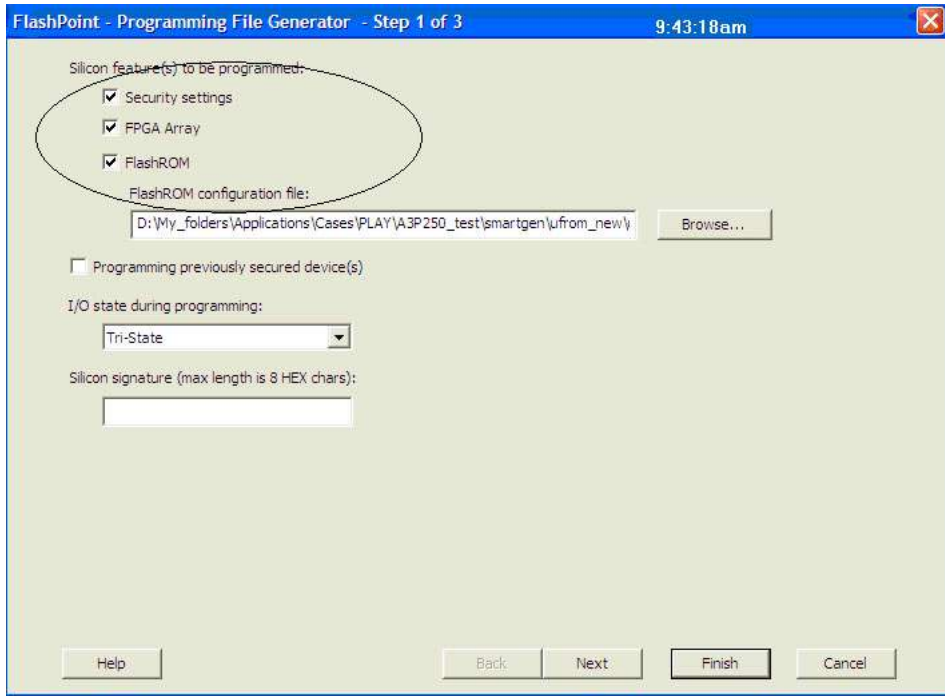
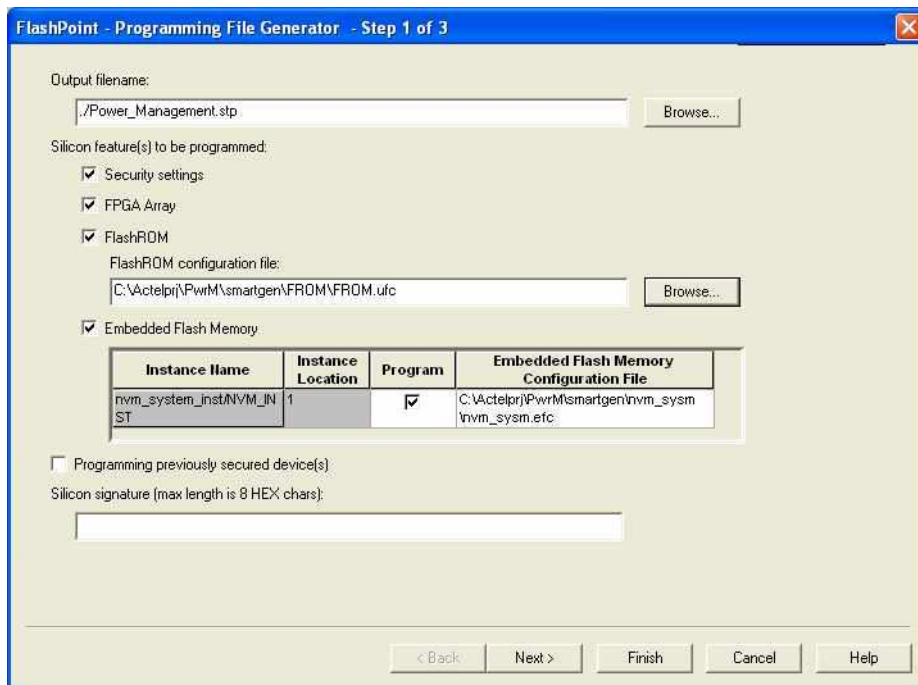
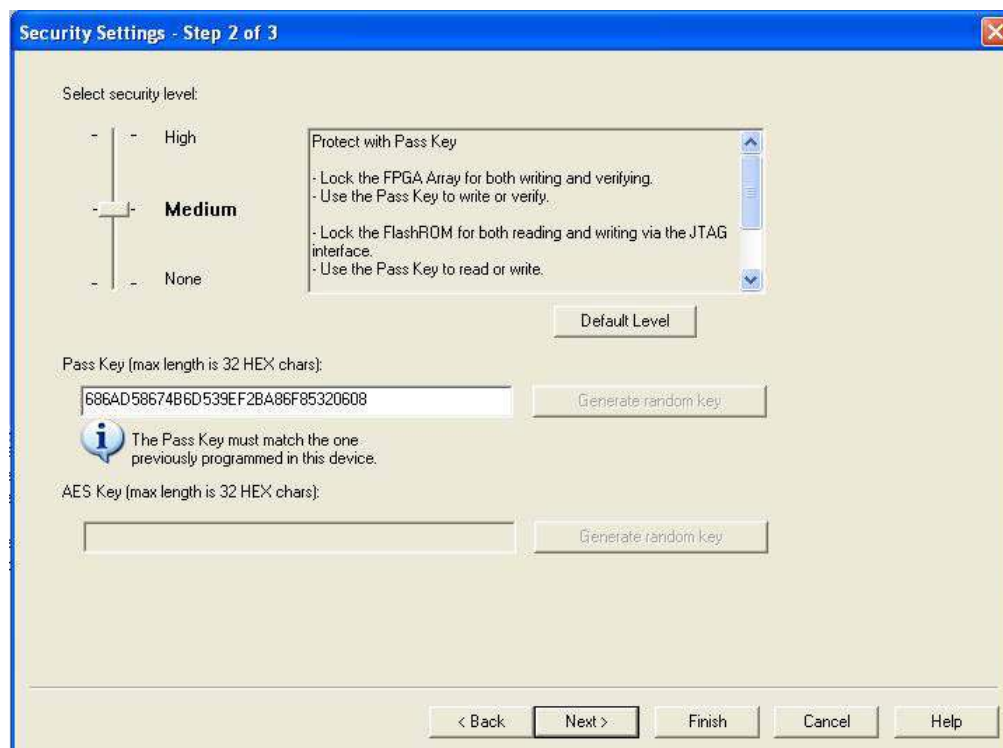

Figure 12-10 • All Silicon Features Selected for IGLOO and ProASIC3 Devices
Figure 12-11 • All Silicon Features Selected for Fusion
Figure 12-19 • FlashLock Pass Key, Previously Programmed Devices
1. Select the **Silicon features to be programmed** (Security Settings, FPGA Array, FlashROM, Flash Memory Blocks), as shown in Figure 12-10 on page 314 and Figure 12-11 on page 314. Click **Next**.
Figure 12-10 on page 314 and Figure 12-11 on page 314 show the option **Programming previously secured device(s)**, which the user should select before proceeding. Upon going to the next step, the user will be notified that the same FlashLock Pass Key needs to be entered, as shown in Figure 12-19 on page 322.
It is important to note that when the security settings need to be updated, the user also needs to select the **Security settings** check box in Step 1, as shown in Figure 12-10 on page 314 and Figure 12-11 on page 314, to modify the security settings. The user must consider the following: